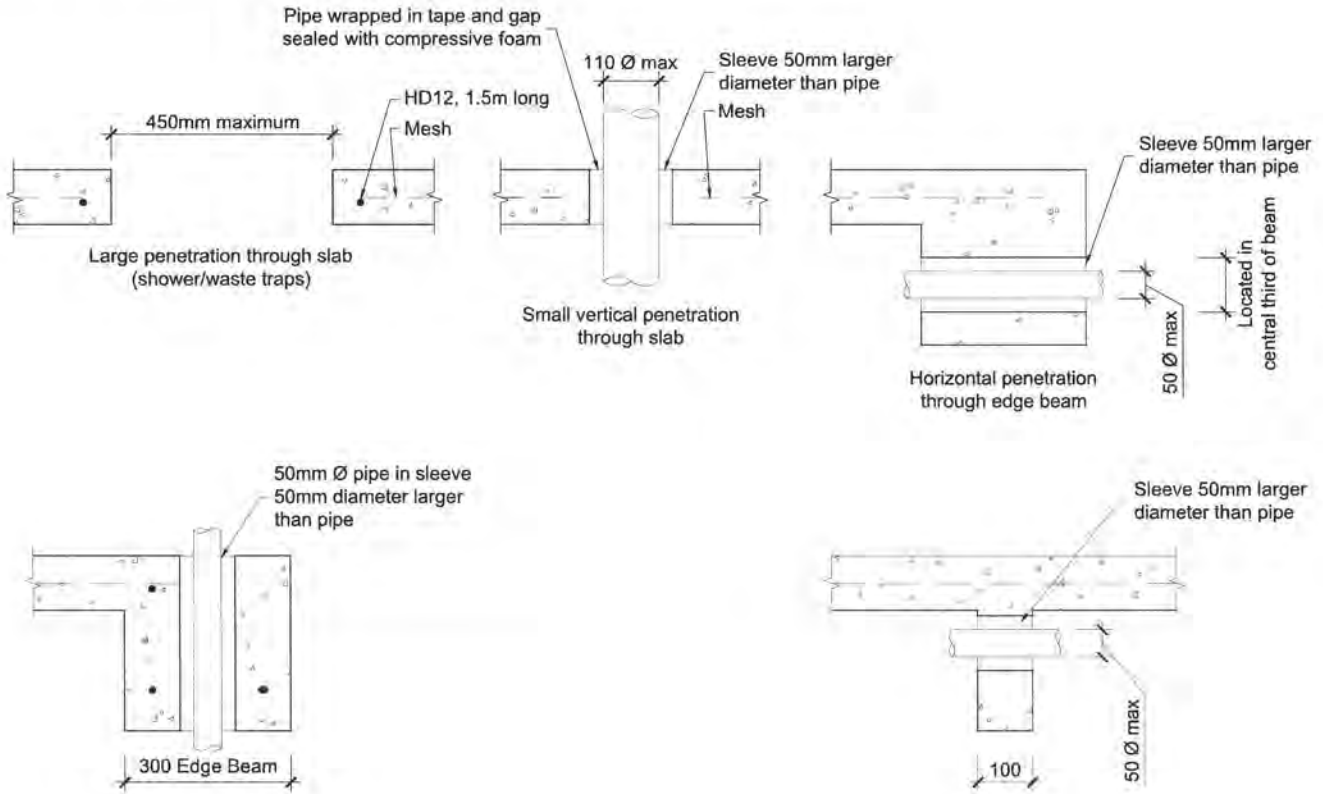

Figure 12 Example of detailing requirements for services
(1) For situations where a 100mm diameter pipe is required to pass through the edge beam, the edge beam shall be locally increased in width to a minimum of 500mm wide. This shall be achieved by keeping flush the outside face of the edge beam and removing 200mm from the pod. The width shall remain at 500mm for a distance of 600mm beyond the service pipe. Refer to figure 12 for details.
(2) The need for a duct 50mm larger than the service diameter can be deleted when the pipe work does not cross the interface between the bottom of the RibRaft system and the ground at any point along its length. An example would be services laid within the plane of the pods and passing through the edge beam and discharging to a gully trap or similar. In these cases the diameter of the service can be increased to a maximum of 100mm and a service duct is not required. The pipe work shall be wrapped in denso tape where it crosses concrete elements to prevent adhesion between the concrete and pipe work.
(3) Where a gas pipe line runs through the RibRaft floor system, in addition to the requirements above, the pipeline shall enter the building through the outside face of the perimeter foundation beam and be located in the plane of the pods. The aim being to ensure that damage to the gas pipe will most likely occur outside the building envelope should movement occur between the ground and RibRaft in a large earthquake.
(4) Larger penetrations or voids up to 450mm square (e.g. for shower waste/traps) are permitted through the slab provided all the conditions of this paragraph are met. These openings shall be trimmed with 1 HD12 (Grade 500E) bar 1500mm long placed along each side of the opening, tied to the mesh. One set of parallel bars shall be placed on top of the mesh and the other set placed under
Any services crossing ribs or the edge beam horizontally shall be placed only within the middle third of the member. Except as noted in figure 12, services crossing the ribs vertically shall also be constrained to the middle third of the width of the edge or internal load bearing rib. Except as noted in figure 12 at no stage shall any of the reinforcement bars be relocated or cut to allow for the services (it is acceptable, however to cut the mesh). In some instances this will dictate the location of the ribs. The pods shall be cut to allow for this and if necessary, the spacing of the ribs shall be decreased locally. There shall be 600mm minimum clear spacing in each direction between penetrations through the system.
and a type of easily compressible foam). A pictorial of some of the above requirements is illustrated in figure 12:
Where required, the services can be installed by removing unnecessary polystyrene and placing pipes within the pod depth. All pipes shall be held firmly in place and have temporary end covers. Any services crossing ribs or the edge beam horizontally shall be placed only within the middle third of the member. Except as noted in figure 12 (section 1) services crossing the ribs vertically shall also be constrained to the middle third of the width of the edge or internal load bearing rib. Except as noted in figure 12 (section 1) at no stage shall any of the reinforcement bars be relocated or cut to allow for the services (it is acceptable, however to cut the mesh). In some instances this will dictate the location of the ribs. The pods shall be cut to allow for this and if necessary, the spacing of the ribs shall be decreased locally. There shall be 600mm minimum clear spacing in each direction between penetrations through the system.